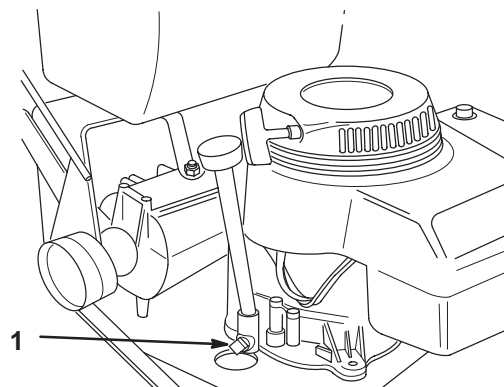

Figure 34
3. Place a pan below the oil drain. Remove the oil drain plug (Fig. 34).